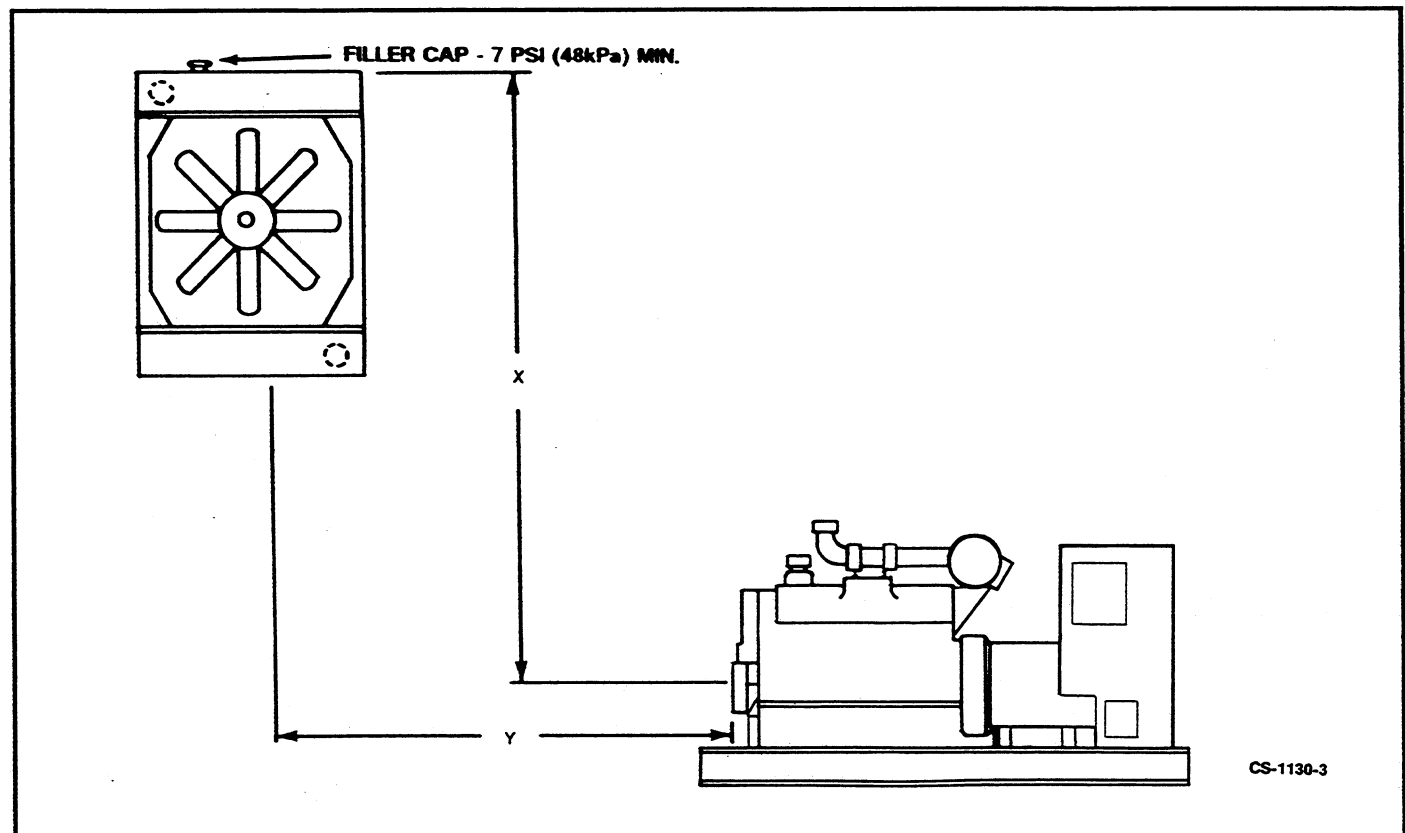

FIGURE 4-4. REMOTE RADIATOR INSTALLATION
The two key design considerations in a remote radiator installation are the vertical distance (X) from the engine centerline to the radiator top and the horizontal distance (Y) from the engine front to the radiator centerline (see Figure 4-4). These distances determine if any additional equipment is required such as a surge tank, auxiliary pump, or hot well. Due to the many design considerations, all remote radiator installations must be engineered to be sure the complete system functions properly. Follow the instructions of the consulting engineer when installing a remote radiator system.